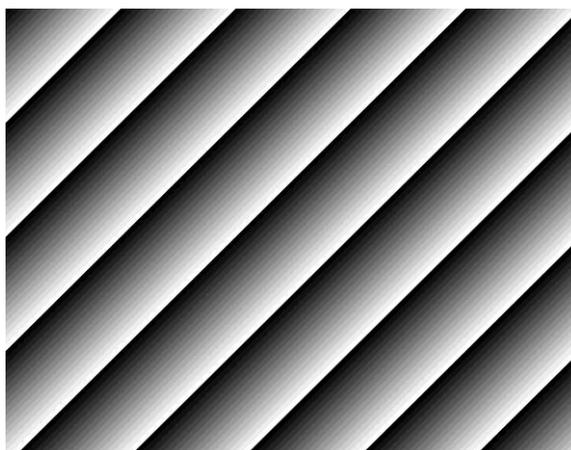

Figure 14 – Diagonal pattern
3. Diagonal ramp – a grayscale diagonal gradient as shown in Figure 14.